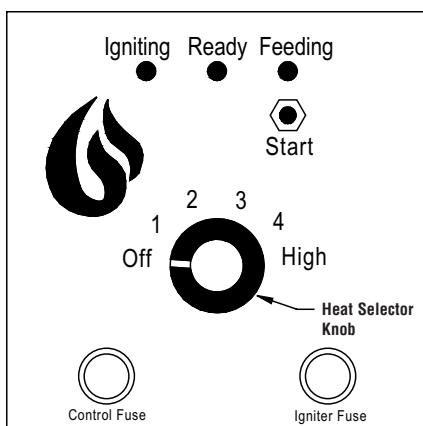

Figure 42
1. Turn the heat selector knob (see **Figure 42**) to the heat level desired - 1 through high - and the ready light will turn green.